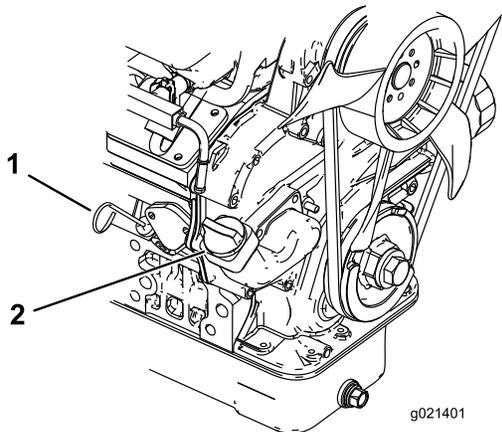

Figure 22
2. Remove the dipstick (Figure 22) and wipe it with a clean rag. Insert the dipstick into the tube and make sure that it is seated fully. Remove dipstick and check the level-of-the-oil.
3. If the oil level is low, remove the filler cap (Figure 22) and add enough oil to raise the level-of-the-oil to the Full mark on the dipstick.